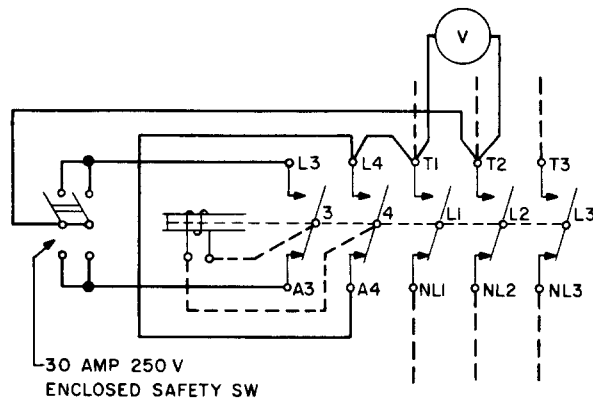

Fig. 7 - Checking Circuit for Bulletin 905, 907, and 908 Switches
(1) When checking for the electrical requirements, disconnect the switch from the working circuit. Disconnect and tape the leads at terminals L3, L4, A3, and A4. Set up the checking circuit shown in Fig. 7 using wire of the sizes specified below. The operating coil is designed for momentary duty only and for that reason the switch should not be operated more often than once per minute.